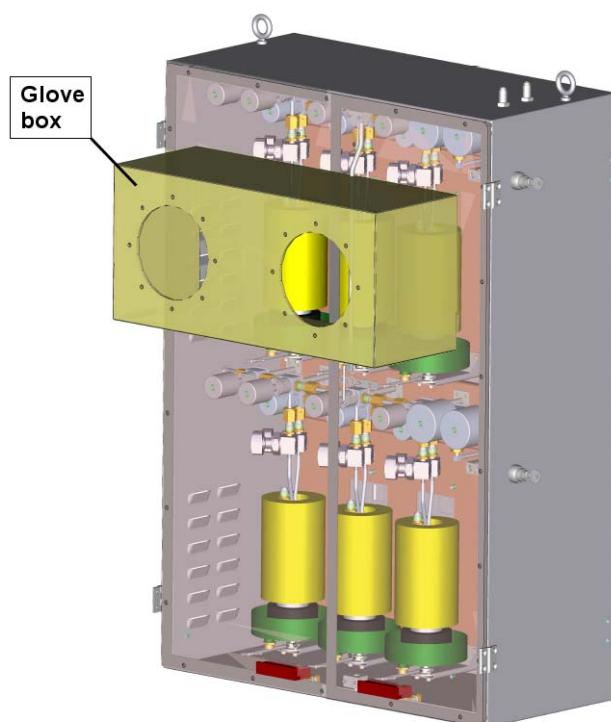

Figure 7-3 Glove box fitted to the six-way precursor cabinet
- 6 Fit the glove box to the front of the precursor cabinet (see Figure 7-3).